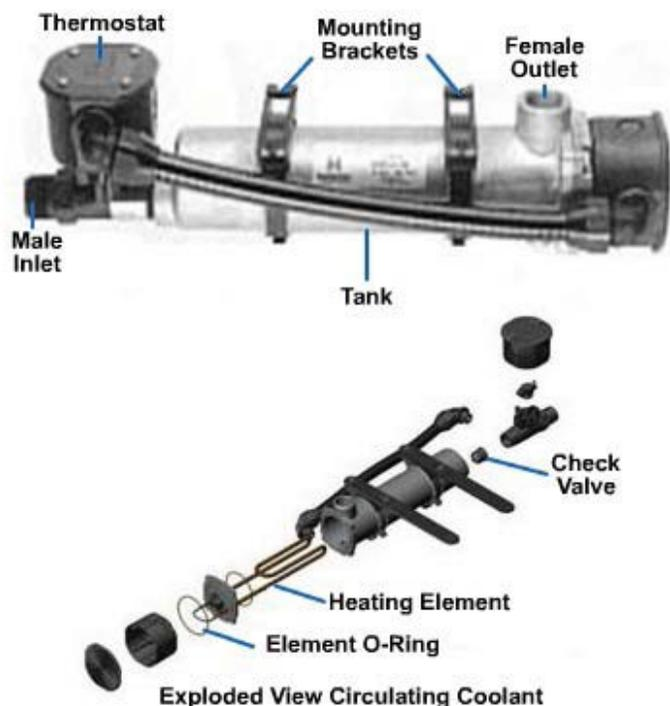

Figure 5-104 - Circulating coolant heater.
- **Circulating coolant heaters**, as shown in *Figure 5-104*, are located outside the engine. Cold coolant leaves the bottom of the engine block and enters the heater tank, where it is warmed by a copper heating element. The warm coolant is then pumped into the engine blocks. Circulating heaters require 120 or 240 volts AC and operate over 3500 watts. They are available with or without thermostatic control. The main advantage of circulating coolant heaters is that they warm the engine in a very short period of time. While most circulating coolant heaters are electric, some are propane fired.